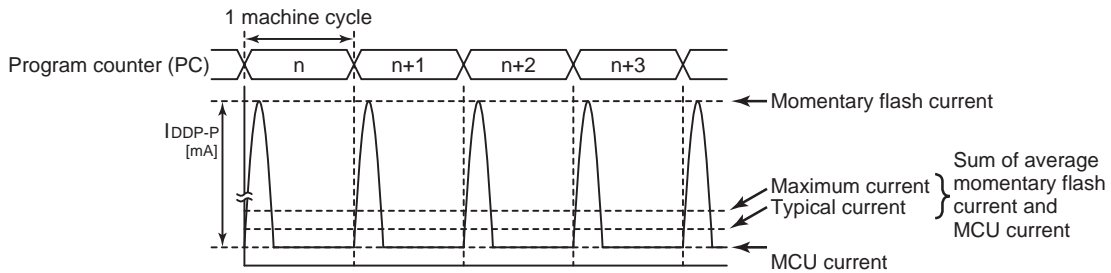

Figure 25-4 Intermittent Operation of Flash Memory
- Note 7: When a program operates in the flash memory or when data is being read from the flash memory, the flash memory operates intermittently, and a peak current flows, as shown in Figure 25-4. In this case, the supply current  $I_{DD}$  (in NORMAL1, NORMAL2 and SLOW1 modes) is defined as the sum of the average peak current and MCU current.